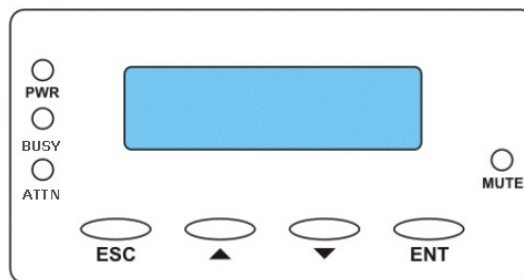

Figure 3-3: LCD Panel LEDs
The LCD keypad panel comes with three (3) status-indicating LEDs marked, from top to bottom, **PWR**, **BUSY**, and **ATTN**, as shown in **Figure 3-3** below. The definitions of these LEDs are shown in **Table 3-5**.